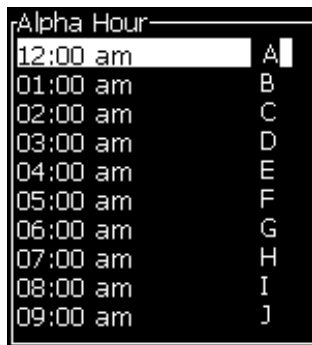

Figure 5-45: Setup Encoded Hour
- 3 Select *Setup Encoded Hour* and press *Enter* to open the *Alpha Hour* dialog box (see Figure 5-45).